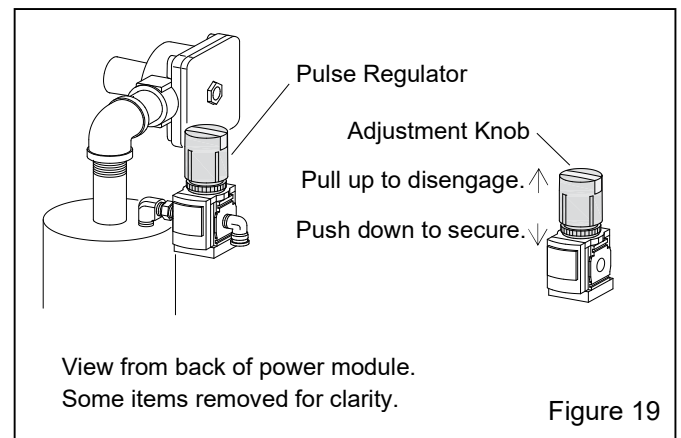

Figure 19
5.8 Dust-Collector Pulse Pressure – Figure 19
5.8.1 Adjust pulse pressure using the regulator located on the power module, as shown in Figure 19.
5.8.2 Begin pulsing at 60 psi. To adjust pressure, pull up on the knob; a short snap as the knob is pulled up disengages it, as shown in Figure 19. Turn the knob